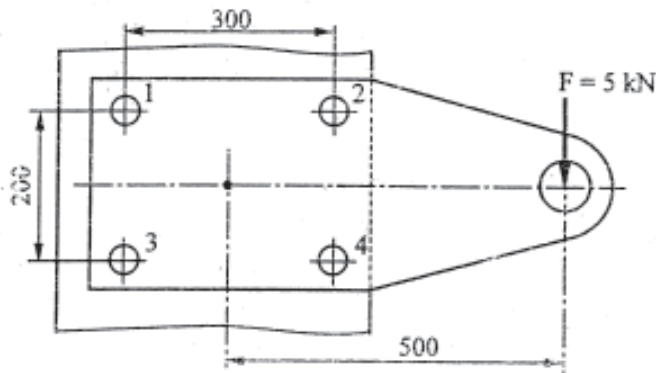

FIGURE 4, QUES 5b
- b) A bracket is bolted as shown in Figure 4. All bolts are identical and have yield strength in tension 400 MPa. Determine the size of the bolts, assuming factor of safety as 3.